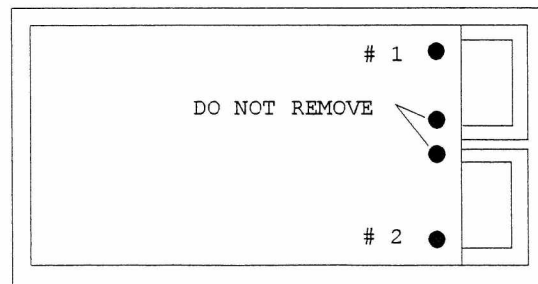

Figure 14... Side view
1) Remove the four screws labelled # 1 and # 2 located in the front corners of the left and right side panels (see figure 14).